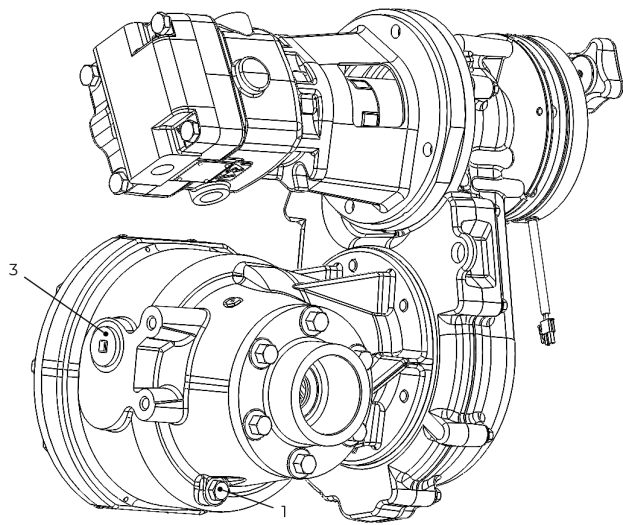

Figure 47. Cast-iron Case Drain and Filler Plugs.
3. Remove the cast-iron case filler plug (3). (Figure 47)